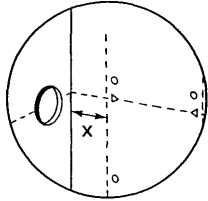

Fig. 40
1. For both Left and Right Hand Flue - Measure the distance from the wall to the nearest line marked from the template. This will be known as dimension X (Fig. 40).